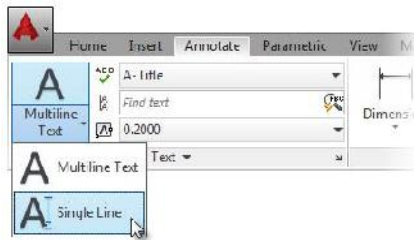

FIGURE 8.9: Verifying the current text style (A-Title) and starting the Single Line Text (TEXT) command
6. Verify that the Text Style drop-down menu found on the Annotate tab > Text panel matches Figure 8.9 and has the A-Title text style set as current.